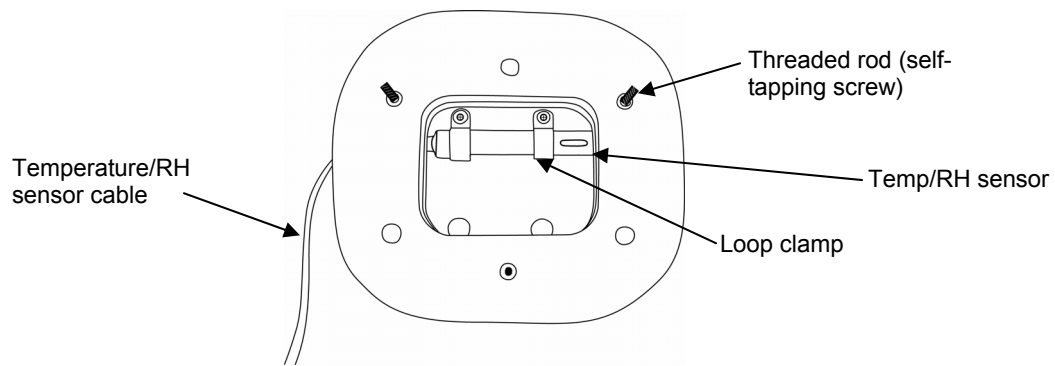
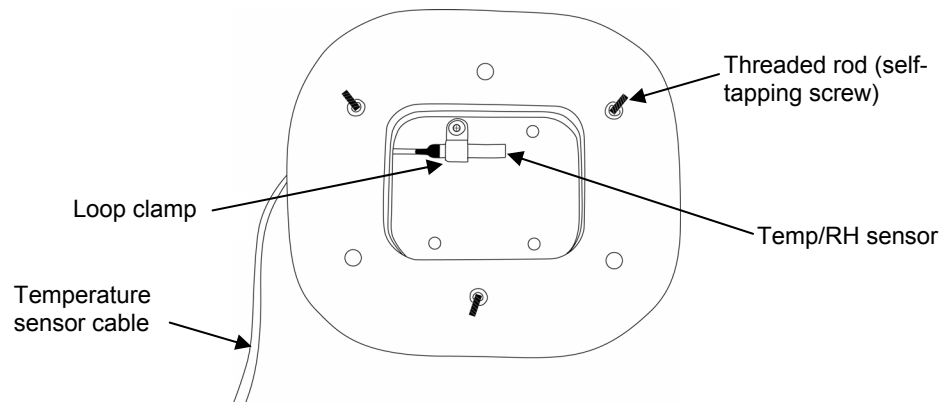
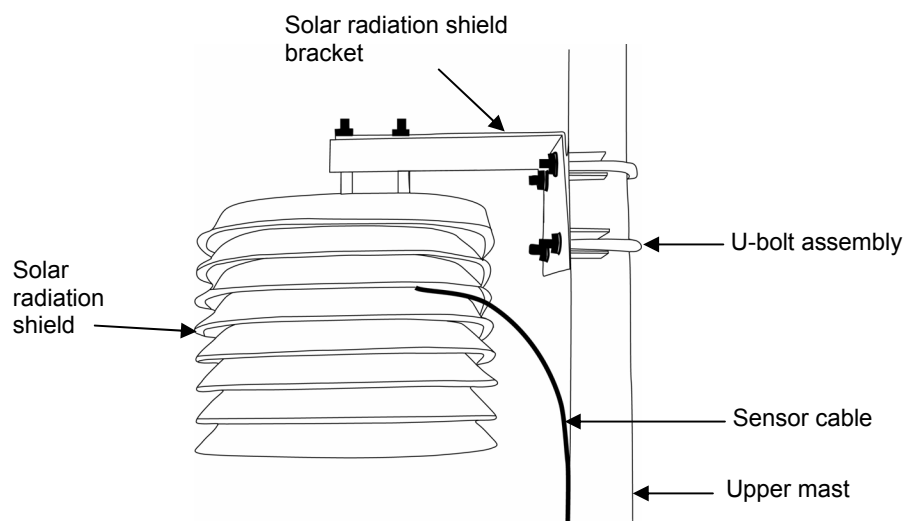

Figure 22: Temperature/RH sensor inside solar radiation shield
Figure 23: Temperature sensor inside solar radiation shield
Figure 24: Solar radiation shield attachment
1. **To install the temperature/RH sensor into the solar radiation shield:** Remove the bottom two shield plates by removing the three wing nuts. Install the temperature/RH sensor using the two black loop clamps, two washers, and two self-tapping screws (see Figure 22). Be careful not to block the RH sensor openings. Feed the cable out through the third and fourth shield plates (see Figure 24). Replace the bottom two shield plates.
To install the temperature sensor into the solar radiation shield: Remove the bottom two shield plates by removing the three wing nuts. Install the temperature sensor using the small black loop clamp, washer, and screw (see Figure 23). Feed the cable out through the third and fourth shield plates (see Figure 24). Replace the bottom two shield plates.
2. Mount the white solar radiation shield assembly onto the upper mast using the two U-bolts provided (see Figure 24).